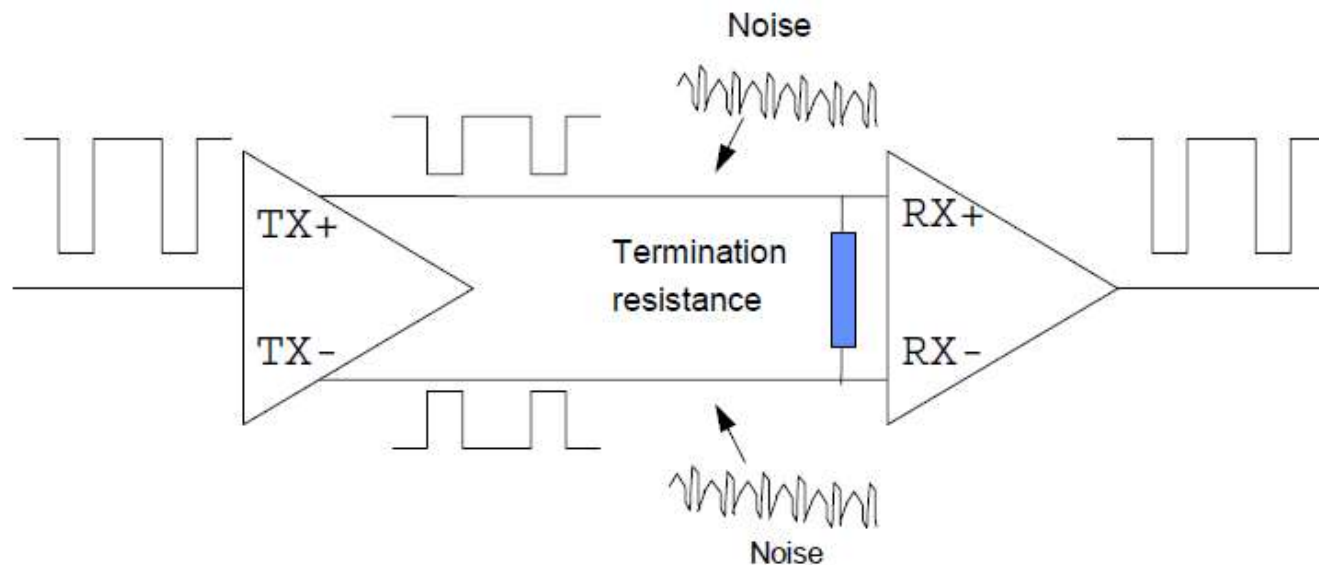

Figure 16: Balanced digital interface circuit (RS-422)
- RS-422 is a balanced interface and uses two conductors to carry the signal (see Figure 16). The electrical currents in each of the conductors are 180° out-of-phase with each other.